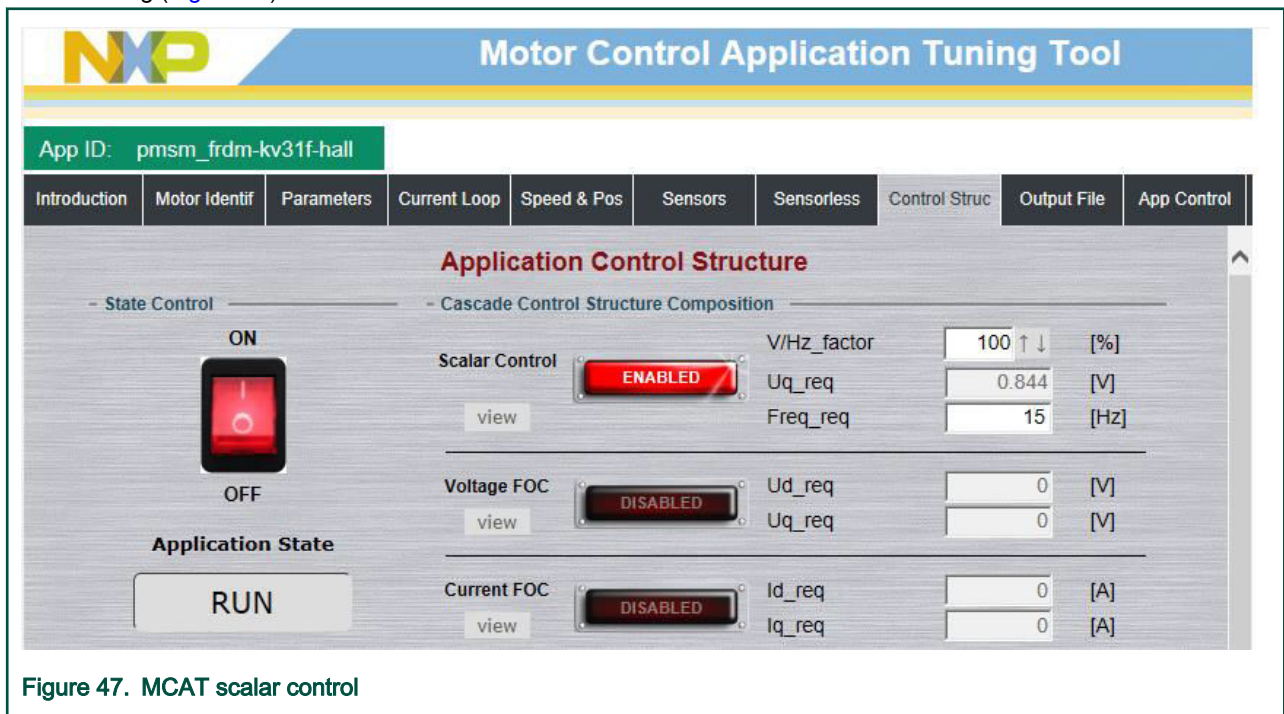

Figure 47. MCAT scalar control
3. Set the required frequency value in the “Freq_req” field; for example, 15 Hz in the “Scalar Control” section. The motor starts running (Figure 47).